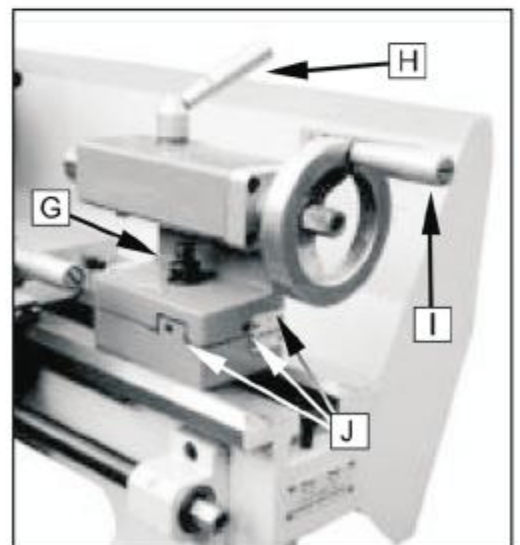

Fig. 12
10. Tailstock Clamping Screw (G, Fig. 12)
11. Tailstock Quill Clamping Lever (H, Fig. 12)
12. Tailstock Quill Traverse Handwheel (I, Fig. 12)
13. Tailstock Off-set Adjustment (J, Fig. 12)